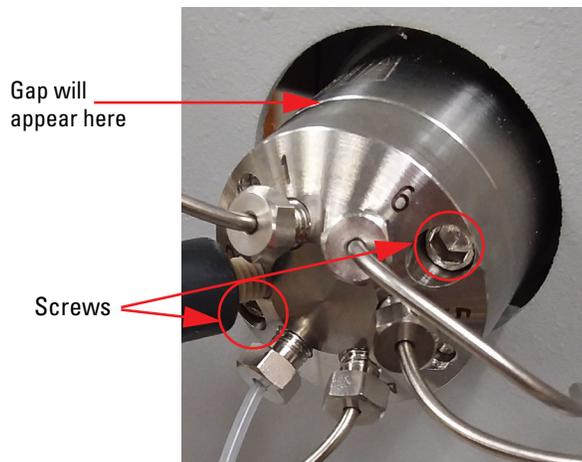

Figure 1: Location of screws on the stator retainer
1. Use the supplied $\frac{9}{64}$ " hex key to remove the 2 screws that retain the stator (the portion of the inject valve with the tubing connections). These should be loosened in quarter turn increments until the tension is removed and a gap starts to appear (Figure 1).